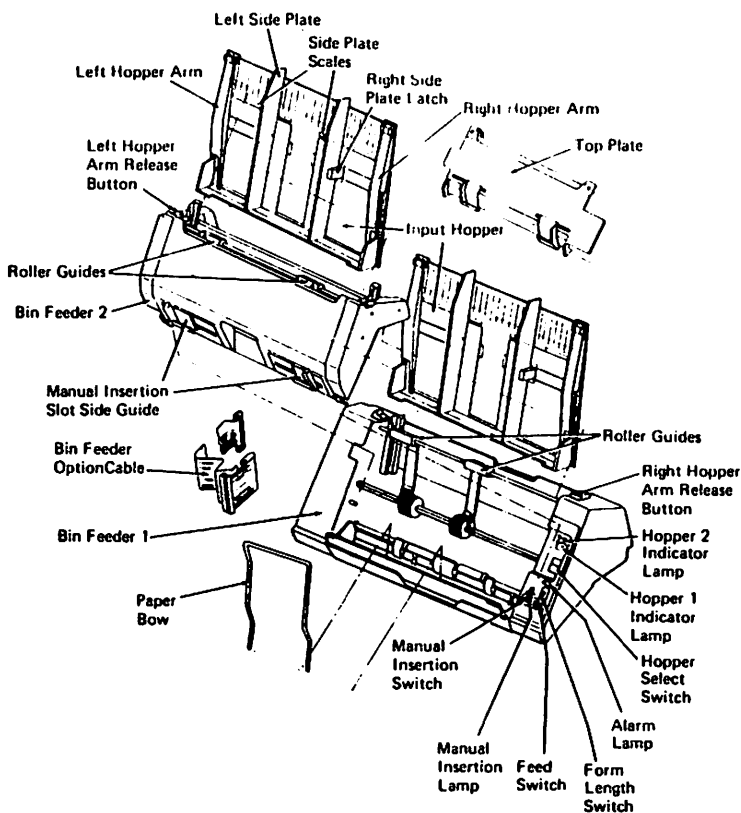

Figure 12 Dual-bin feeder
Perform the following steps to install the dual-bin feeder (Figure 12).
NOTE: If the top plate is installed on bin feeder 1, remove the top plate before performing step 7 (Figure 12).
8. Install the paper bow on bin feeder 1 as shown in Figure 12.